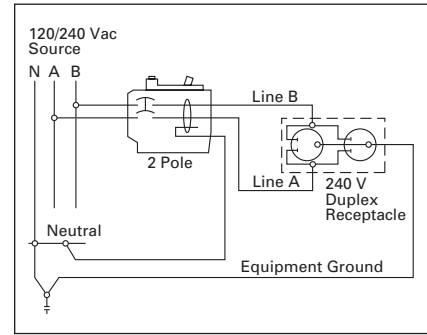

Figure 4-14. 2-Pole 240 Volt Load Application Sourced by 120/240 Vac
① Common trip refers to 2-pole 240 volt load application sourced by 120/240 Vac (See Figure 4-14).
④ Common trip refers to 2-pole 240 volt load application sourced by 120/240 Vac (See Figure 4-14).